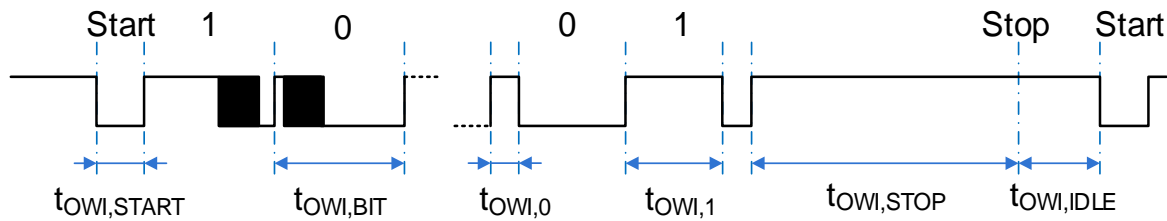
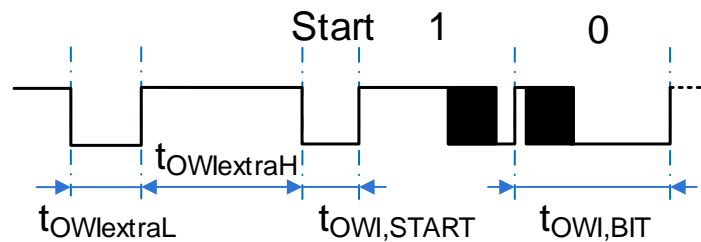

Figure 15. OWI Timing Diagram
Figure 16. OWI Extra (Activation) Pulse for Concurrent OWI and Analog Output Configuration
- **Valid Data:** Data is transmitted in bytes (8 bits) starting with the most significant bit (MSB). Transmitted bits are recognized after a start condition at every transition from low to high at the OWI line. The value of the transmitted bit depends on the duty ratio between the high phase and high/low period (bit period,  $t_{OWI,BIT}$  in Figure 15). A duty ratio greater than  $1/8$  and less than  $3/8$  is detected as 0; a duty ratio greater than  $5/8$  and less than  $7/8$  is detected as 1. The bit period of consecutive bits must not increase to more than 1.5 times the previous bit period or decrease to less than half of the previous bit period because a stop condition is detected in this case.
OWI protocol timing and parameters are specified in Figure 15, Figure 16, and Table 24.
- **Continuous OWI and Analog Output:** The configuration *owi\_off* = 0, *cont\_ANAoutn* = 0, and *owi\_su\_case* = 1 results in AOUT providing analog output levels as soon as they are available after power-up (in Cyclic Mode). Concurrently, the OWI listens to the AOUT1 pin in order to check for valid OWI commands. The OWI still needs to be enabled by means of the *Startup OWI* command. The physical protocol in this configuration requires an extra pulse (see Figure 16) prior the *Startup OWI* command. After the release of the extra OWI initialization pulse, the analog output is switched off2 and AOUT becomes the OWI I/O pin until the OWI startup window (according to *owi\_su\_length*) has elapsed. The OWI-master implements *Dynamic Driving* to avoid dynamic currents (due to DAC-output level changes) causing unwanted pull-up signal generation (via ROWI,PULL). When *Dynamic Driving Approach* is not applied in this configuration, set the constantly connected OWI-master pull-up resistances (ROWI,PULL) to ≥5.5kΩ to prevent erroneous OWI-start detections that can be triggered by changing DAC-output levels. Limit the interface speed to slower values with the proper setting, such as longer bit period.